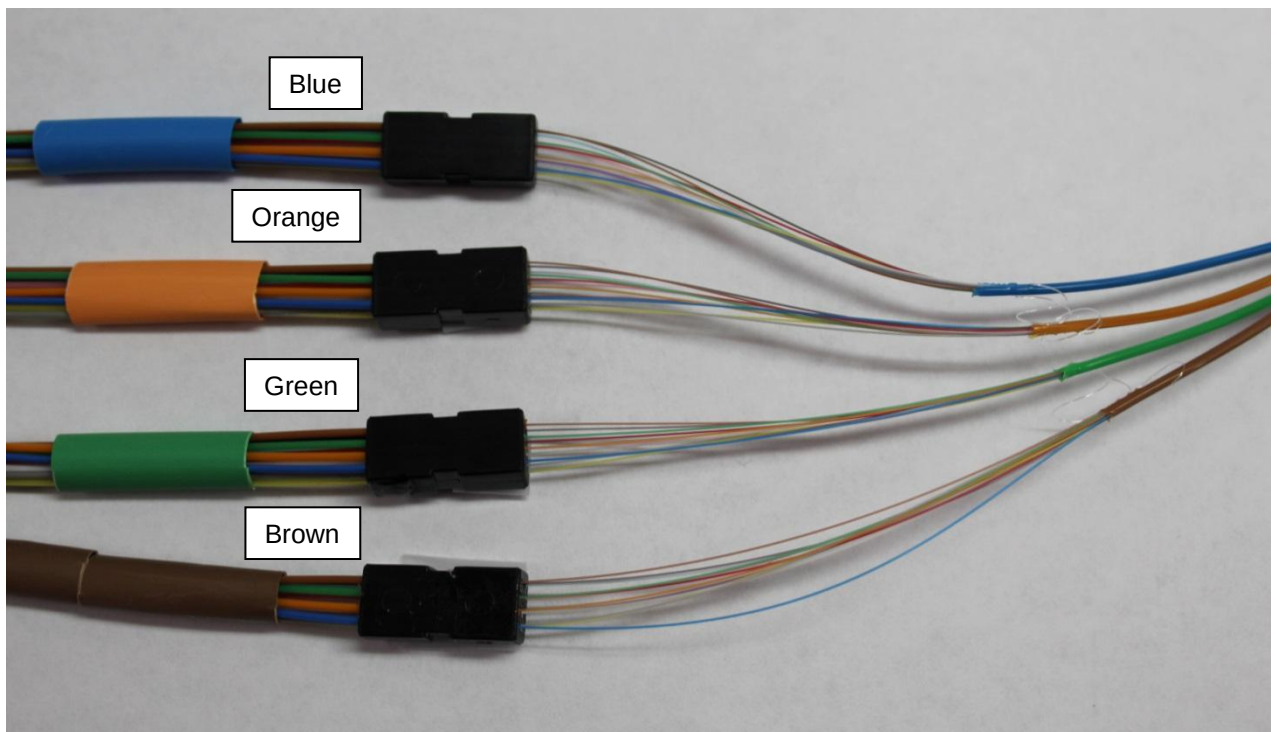

Figure 2
5.5 Separate and organize fiber bundle strands and assemblies. At the point where the strands exit nylon sub-unit, carefully arrange them so they are not crossed and carefully separate them along their entire length. **See Fig. 2.**
6.1 FT48FBK Field Termination Kit consists of a Base Unit, Cover Unit, Four (4) Breakout Unit Assemblies, 8 colored shrink tubing pieces and a 3.6 mm bushing **See Fig. 2 & 3.**
7.1 Prepare the Blue, Orange, Green and Brown sub units and Breakout Assemblies first as in Figure 2.